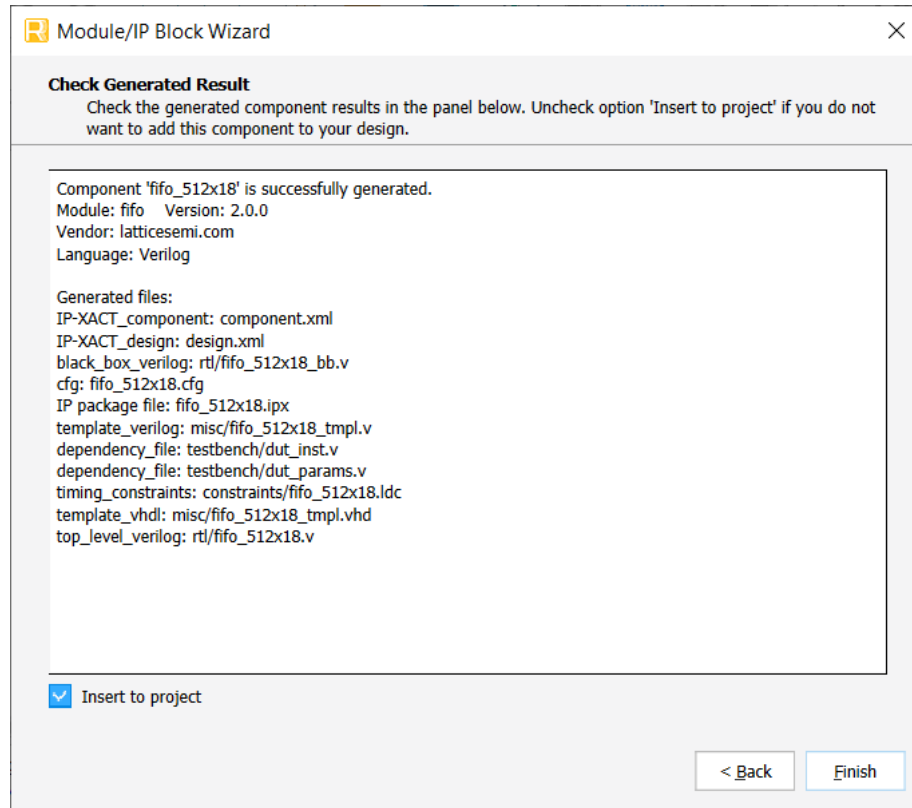

Figure 3.4. Example: Generating FIFO Check Generated Result
- When all the options are set, click **Generate**. The **Check Generated Result** dialog box opens, showing design block messages and results as shown in Figure 3.4.